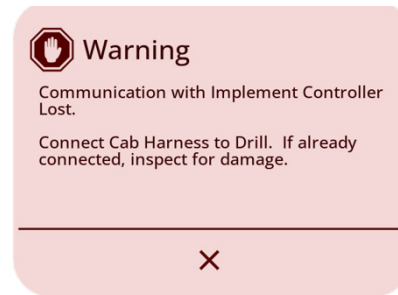

Figure 3.6 Implement Controller Communication Lost Warning.
1. Ensure the connection is set up correctly (This warning appears if connection between cab and the implement controller is lost Figure 3.6).